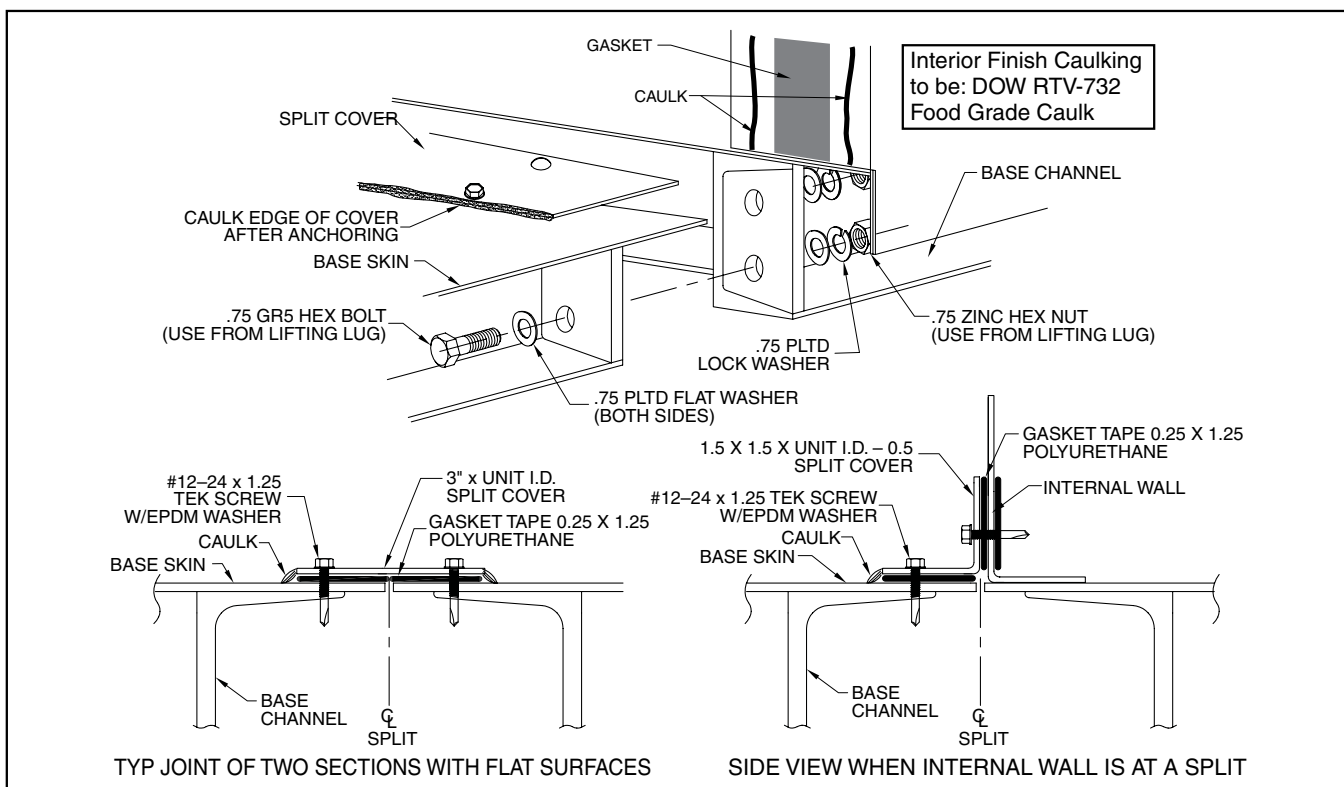

Figure 15 – Base Split Reassembly Procedure
4. Attach hand winches to either side of the base via relocated lifting lugs and pull the sections together. Bolt the base flanges per Figure 15.
7. Apply gasket tape to either side of the section joint on the interior floor of the unit as indicated in the details of Figure 15.
9. Seal the edges of the split cover with beads of caulk as shown in Figure 15.